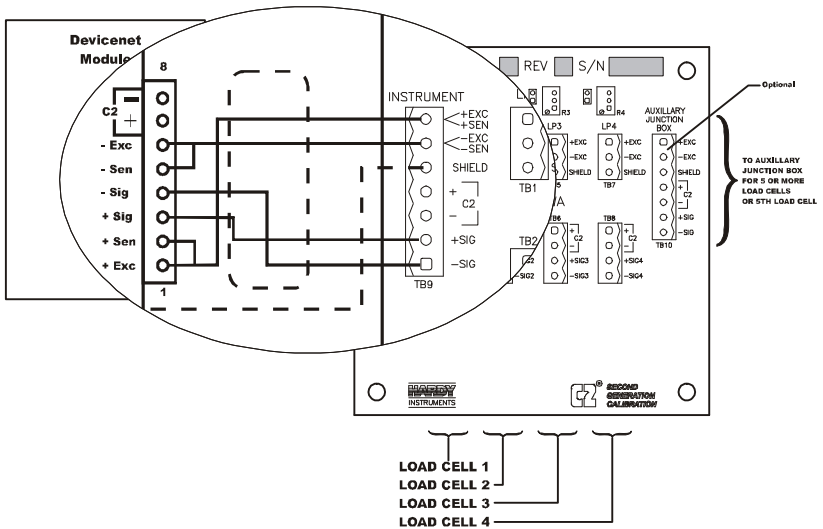

FIG. 3-11 NON C2 LOAD CELL CONNECTION/HI 215JB JUNCTION BOX
- 2 Factory installed jumpers to remain in place for 4 wire, non-C2 load cell connections. (See Fig. 3-11)